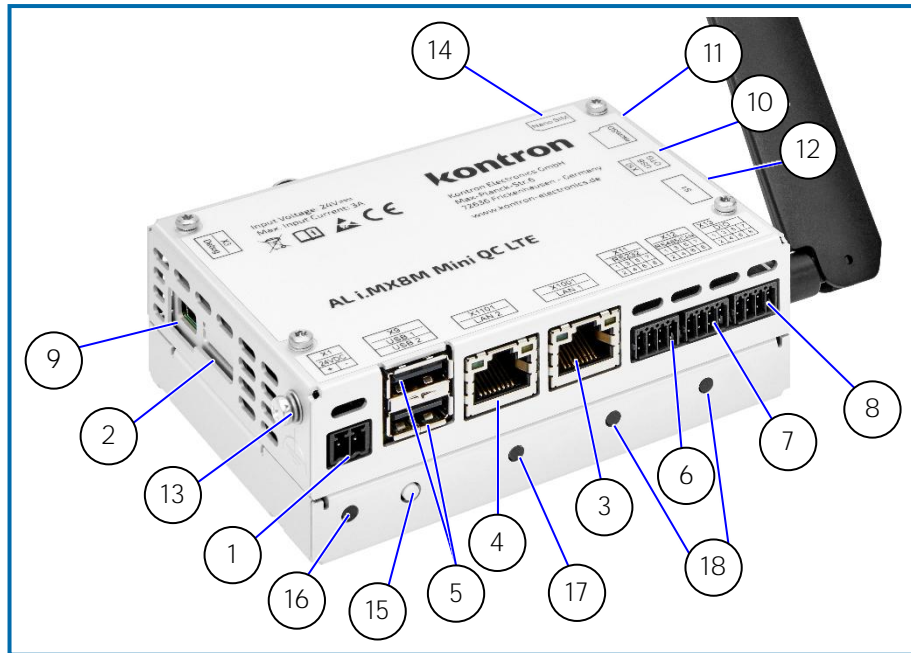

Figure 8: Top Side View
There is one 2-pin power connector on the top side of the board supporting an input DC voltage range of 24 V DC  $\pm 20\%$ , see Figure 8 (pos. 1). The mating connector required to connect the power connector to a DC main power source is supplied with the AL i.MX8M Mini QC LTE. For information on how to connect the supplied mating connector to the input power source, refer to Chapter 7.2: Wiring the DC Mating Power Connector.
There are two LAN ports, see Figure 8 (pos. 3 and 4). In the software these are referred to as ETH0 and ETH1. The assignment between LAN2/LAN1 and ETH0/ETH1 depends on the software. In order to achieve the specified performance of the Ethernet port, shielded category 5 twisted pair cables must be used with 10/100 Mbit/s and Category 5E, 6 or 6E with 1 Gbit/s LAN networks. For the pin assignment of the RJ45 Ethernet connectors, refer to Chapter 10.2.2: Ethernet RJ45 Connector (X1001)
There are two USB 2.0 ports allowing for the connection of USB 2.0 compatible devices, see Figure 8 (pos. 5). The USB ports are designed for connecting short cables only.
There is a RS232 interface (RX/TX) supporting RTS/CTS, see Figure 8 (pos. 6). The RS232 interface is not designed for connecting cables longer than 3 m.
The RS485 interface in Figure 8 (pos. 7) contains also the wiring for CAN. The RS485 interface is not designed for connecting cables longer than 30 m.
The CAN interface in Figure 8 (pos. 7) also contains the wiring for RS485. The CAN address switches 1...4 are connected directly to GPIO pins and can therefore also be used for other purposes. The CAN interface is not designed for connecting cables longer than 30 m.
There is a four port DIO interface available on the front panel of the AL i.MX8M Mini QC LTE, see Figure 8 (pos. 8).
There is a Micro-USB OTG interface that can act as USB2.0 compatible device or host, see Figure 8 (pos. 10).
There is a card slot to connect a microSD card for extra memory, see Figure 8 (pos. 11).
There is a functional earth self-clinching nut on the side of the housing connected to the electronic ground inside the system and to the mounting clamp on the backside of the housing, see Figure 8 (pos. 13).